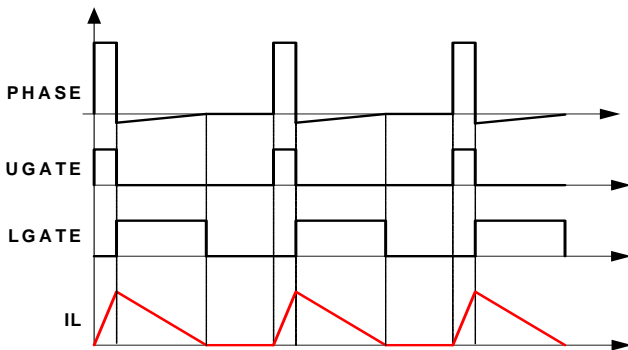

FIGURE 9. DIODE EMULATION
The ISL62771 can operate in diode emulation (DE) mode to improve light-load efficiency. In DE mode, the low-side MOSFET conducts when the current is flowing from source-to-drain and does not allow reverse current, thus emulating a diode. Figure 9 shows that when LGATE is on, the low-side MOSFET carries current, creating negative voltage on the phase node due to the voltage drop across the ON-resistance. The ISL62771 monitors the current by monitoring the phase node voltage. It turns off LGATE when the phase node voltage reaches zero to prevent the inductor current from reversing the direction and creating unnecessary power loss.
If the load current is light enough (see Figure 9), the inductor current reaches and stays at zero before the next phase node pulse, and the regulator is in discontinuous conduction mode (DCM). If the load current is heavy enough, the inductor current will never reach 0A, and the regulator is in CCM, although the controller is in DE mode.